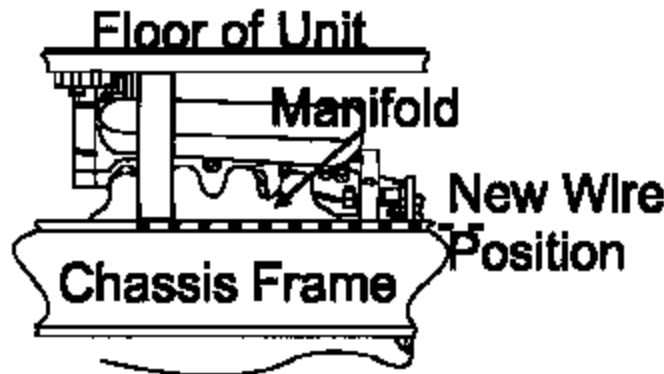

Fig. 6
14. Install two (2) of the 12" x 12" precut insulation pieces on the wire harness routed on top of the frame rail beside the exhaust manifold. Some cutting may be required. (Fig. 6)